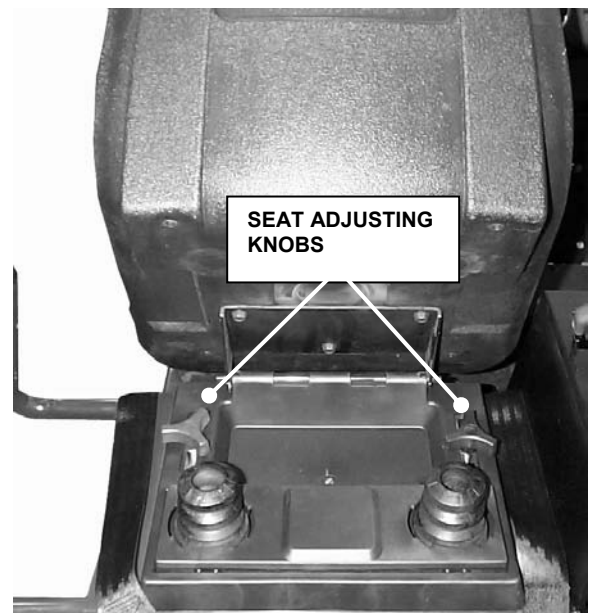

FIGURE 2.2
**2.1.10. Adjust Operator's Seat.** With engine stopped, and park brake set, loosen two seat adjusting knobs and move seat to desired position. Re-tighten both knobs securely. See Figure 2.2.